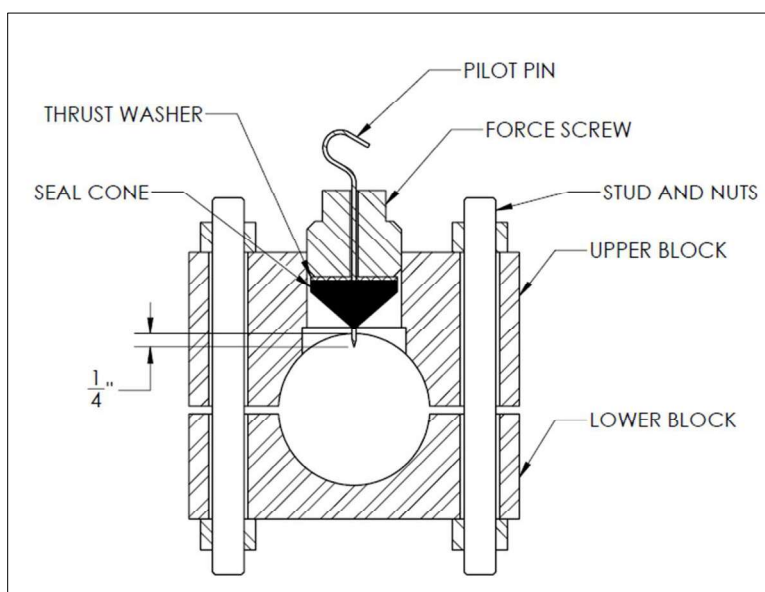

Figure 1
1. Remove the pilot pin point protector and adjust the pilot pin so that it protrudes approximately 1/4 inch (6.4 mm) beyond the seal cone. Adjust the force screw until the tip of the seal cone is flush with the inside surface of the PLIDCO Smith+Clamp as shown in Figure 1.